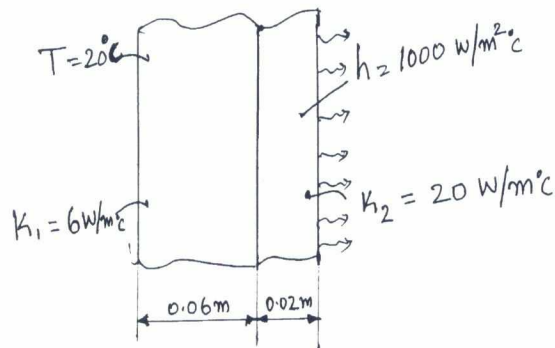

Fig.Q8(b)
- b. Determine the temperature distribution through the composite wall, subjected to convection heat transfer on the right side surface, with convective heat transfer co-efficient shown in Fig.Q8(b). The ambient temperature is  $-5^\circ\text{C}$ . Assume unit area. (12 Marks)